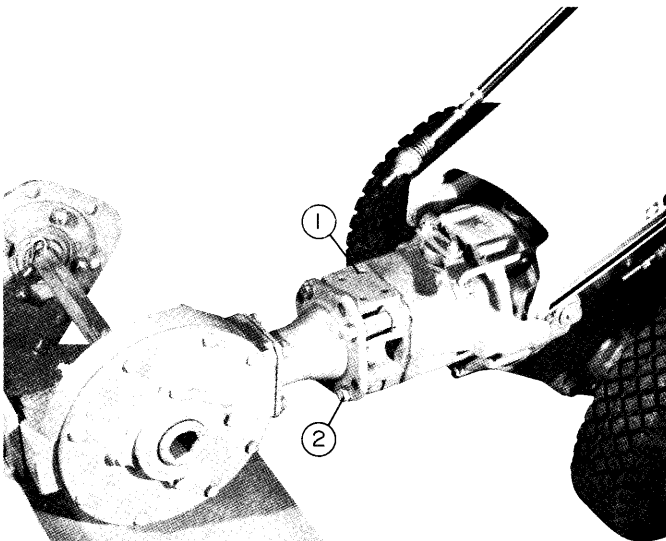

Fig. 5
2. Bolt the cultivator to the attachment adapter of the tractor with the four attachment bolts. See fig. 5.